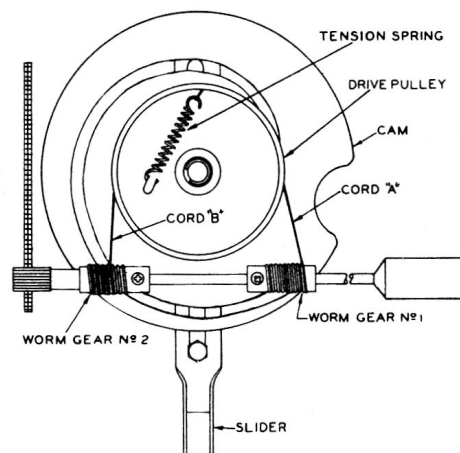

Figure 2
2. Turn the booster pulley and cam assembly until the forked slider has been drawn all the way in and the hole in the rim of the drive pulley is at the top, lining up with the pulley stud and the slider, as indicated in Fig. 2.
5. Tie the tension spring in the loop thus formed, but do not hook it under the ear stamped out of the pulley. You will now have two equal lengths of string extending from the hole in the pulley which we shall call Cord "A" and Cord "B", as indicated in Fig. 2.
NOTE: You can see by studying Fig. 2 how Cord "A" passes over worm drive #1, whereas, Cord "B" passes under worm drive #2.